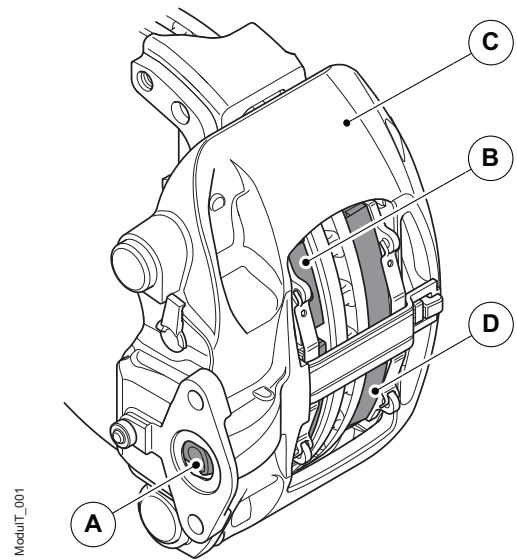

Figure 2. Functional description
The unit, which is actuated by the mechanism lever (A), presses the inner brake pad (B) against the disc, which then causes the calliper (C) to slide laterally, so that the outer brake pad (D) also comes in contact with the disc, see figure 2.